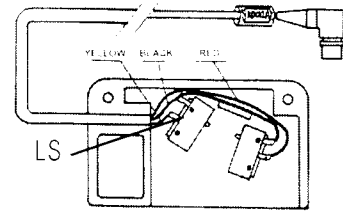

Figure 3
8. After having checked that no parts are missing to operate the pedal switch, measure the resistance between the terminals of the bed lowering LS switch with an ohmmeter (the unit housing the HL switches must be disassembled). These terminals are located under the bed near the pedal (black and yellow wires, see fig 3).